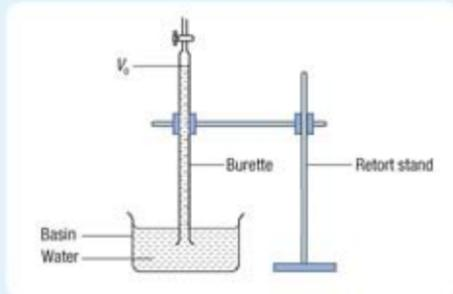

Figure 4.17
1. Fill the burette and basin with water. Then, invert the burette into the basin filled with water and clamp the burette vertically using a retort stand (Figure 4.17).